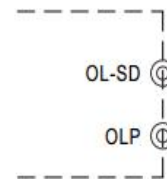

Fig.2 Remove the short-circuit connector of CON3
② Remove the short-circuit connector of CON3, as shown in Fig.2. The output short circuit protection mode will be continuous constant current limit.